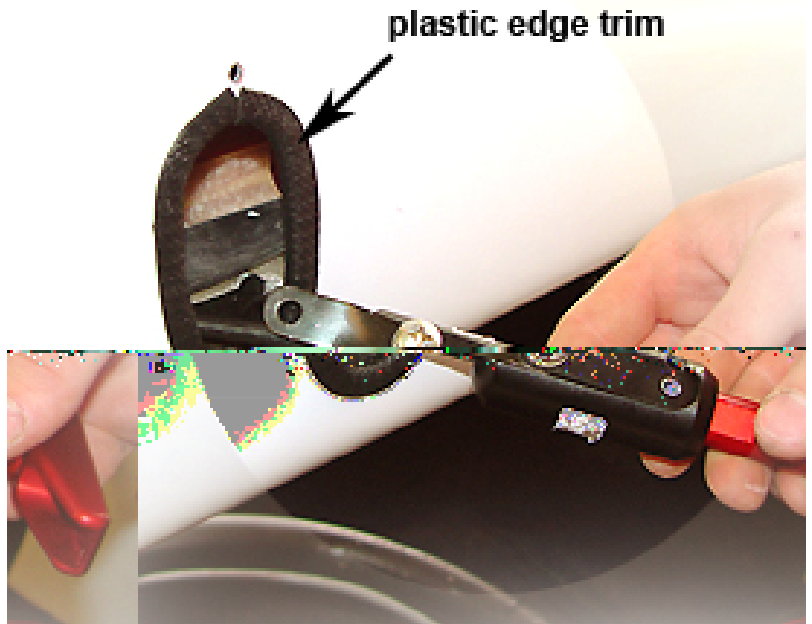

Figure 4-20
- 4.16 Affix the black plastic edge trim to the outside of the hole in the vertical mast fairing, as pictured in Figure 4-20.